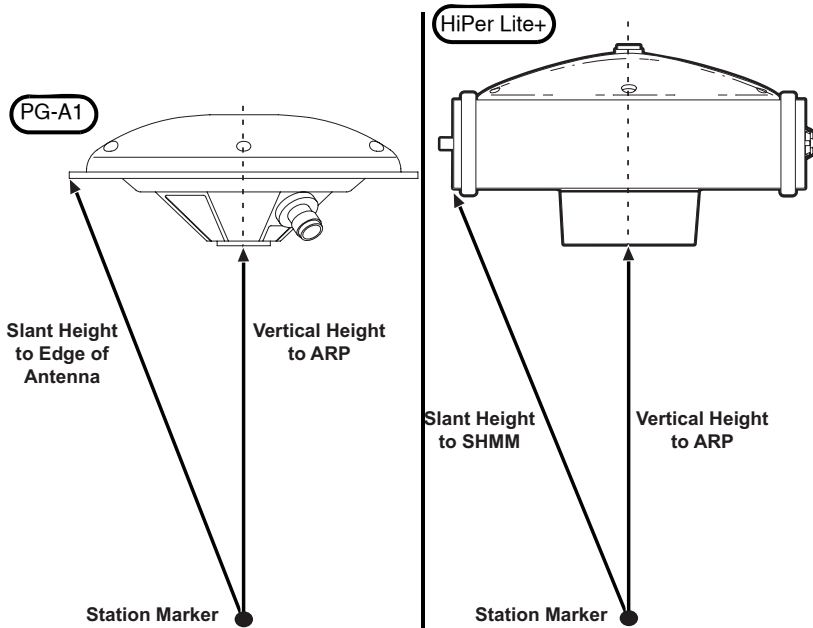

Figure 4-4. Measure Base Station Antenna Height
Step 5: measure the antenna height from the control point to the rim (slant) or ARP (vertical) of the antenna (Figure 4-4).